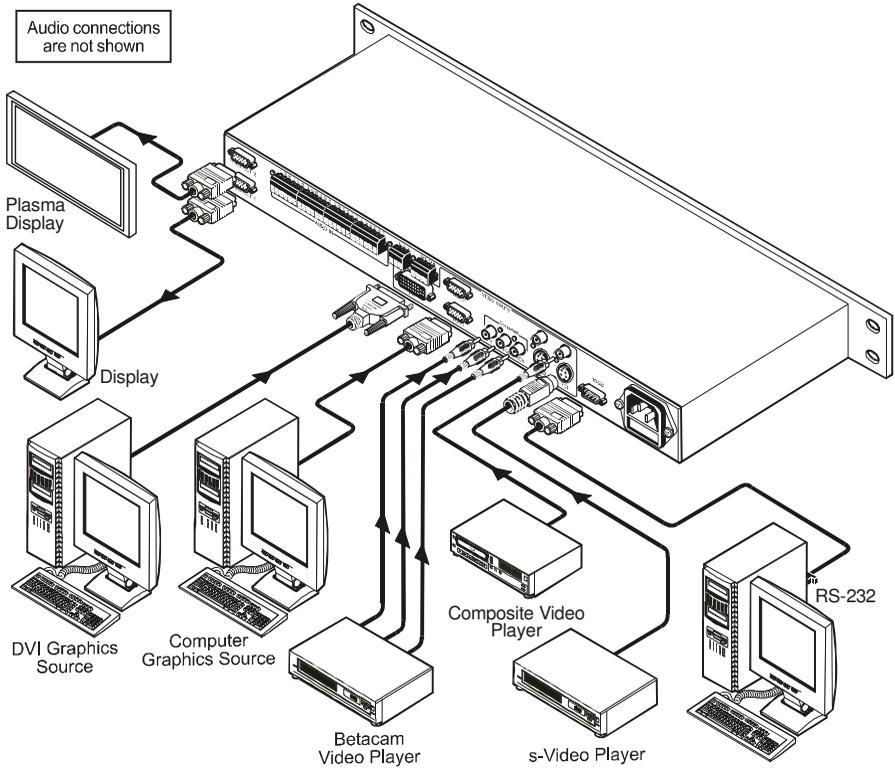

Figure 9: Connecting the VP-724xl Rear Panel
To connect the **VP-724xl** for example1 (see Figure 9), do the following2:
2. Connect the stereo audio sources6 (not illustrated in Figure 9):
4 Alternatively, you can connect an RGB signal (not shown in Figure 9), as follows: Red to the Y connector, Green to the Pb/Cb connector, and Blue to the Pr/Cr connector
4. Connect the LINE AUDIO OUT terminal block connector to one of the audio acceptors, for example, speakers (not illustrated in Figure 9)
6. The power cord1 (the power connector is not illustrated in Figure 9).